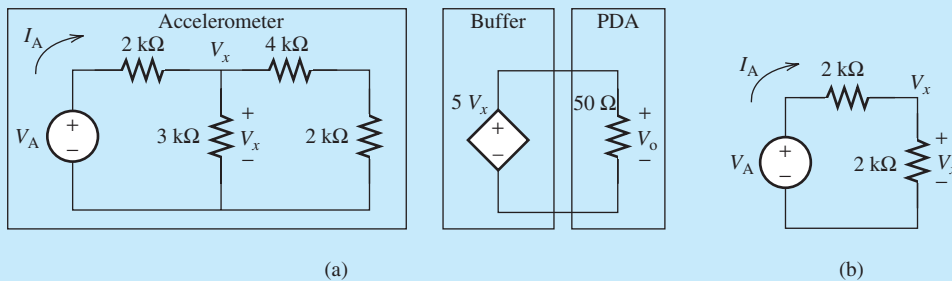

FIGURE 3.42 (a) The circuit model for the accelerometer and the PDA; (b) equivalent circuit for the accelerometer.
To avoid having the PDA overload the accelerometer's resistive network, it is isolated from the accelerometer using a buffer, modeled by the dependent voltage source. The accelerometer gives the acceleration as a varying output voltage, V_A . The voltage, V_A , ranges from 0 to $V_{\max} = 5\ \text{V}$. The circuit model is shown in Figure 3.42. To calibrate the accelerometer and the PDA, the inventor needs to find the circuit parameters as follows:
- Figure 3.42(b) shows the equivalent circuit for the accelerometer obtained by finding the equivalent resistance of $3\ \parallel (2 + 4) = 2\ \text{k}\Omega$. Using simple voltage division, and taking $V_A = V_{\max}$: